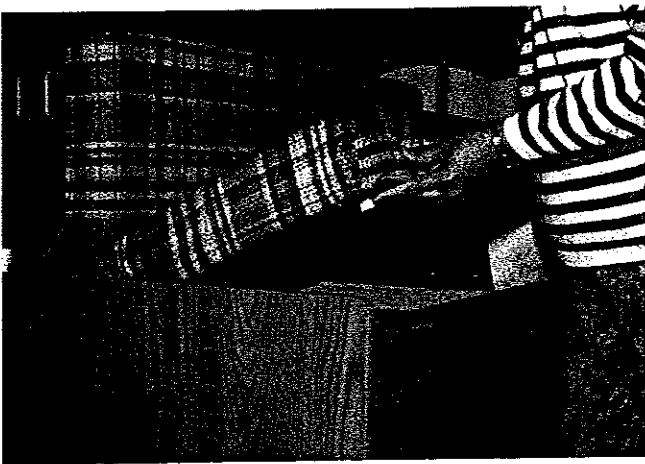

FIGURE 42
**NOTE:** To lift dinette seat, be certain to push the seat cushion firmly toward the backrest wall before lifting in order to prevent inadvertent damage to the plastic stops. See Figure 42.